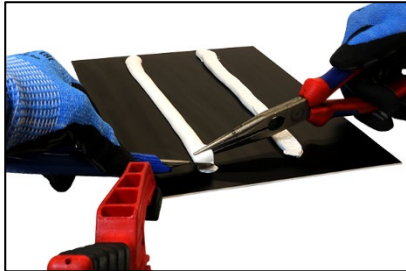

Figure 14 After complete curing, separate the first 2 – 3 cm of the bead
- Then use a sharp razor knife to separate the first 2 – 3 cm of the leading edge of the bead from the substrate (see Figure 14).